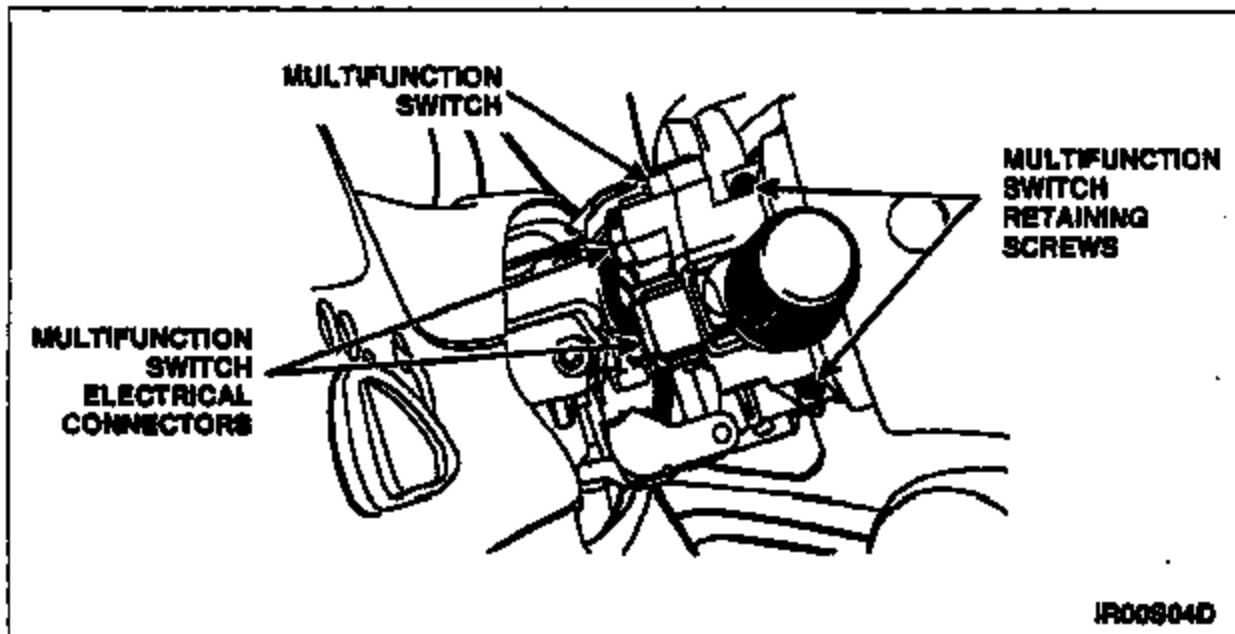

FIGURE 4
4. Remove the two (2) multifunction switch retaining screws and disconnect the electrical connectors. See Figure 4.